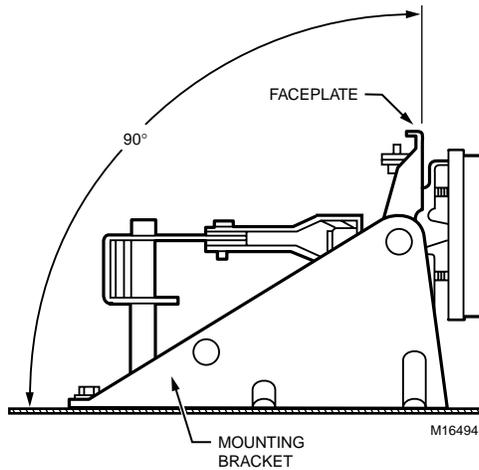

Fig. 8. External Mounting Faceplate Positioning.
2. Check faceplate position and adjust if necessary (Fig. 8).